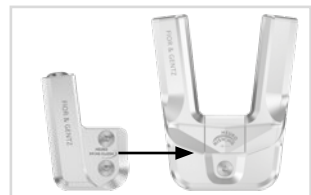

fig. 30
- 4 Mount the functional unit of the desired system joint in the correct system width (see example fig. 30).